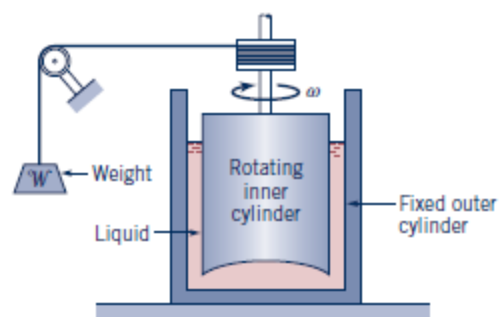

Figure P1.24
1.24 One type of rotating cylinder viscometer, called a *Stormer* viscometer, uses a falling weight, W , to cause the cylinder to rotate with an angular velocity, ω , as illustrated in Fig. P1.24. For this device the viscosity, μ , of the liquid is related to W and ω through the equation $W = K\mu\omega$, where K is a constant that depends only on the geometry (including the liquid depth) of the viscometer. The value of K is usually determined by using a calibration liquid (a liquid of known viscosity).